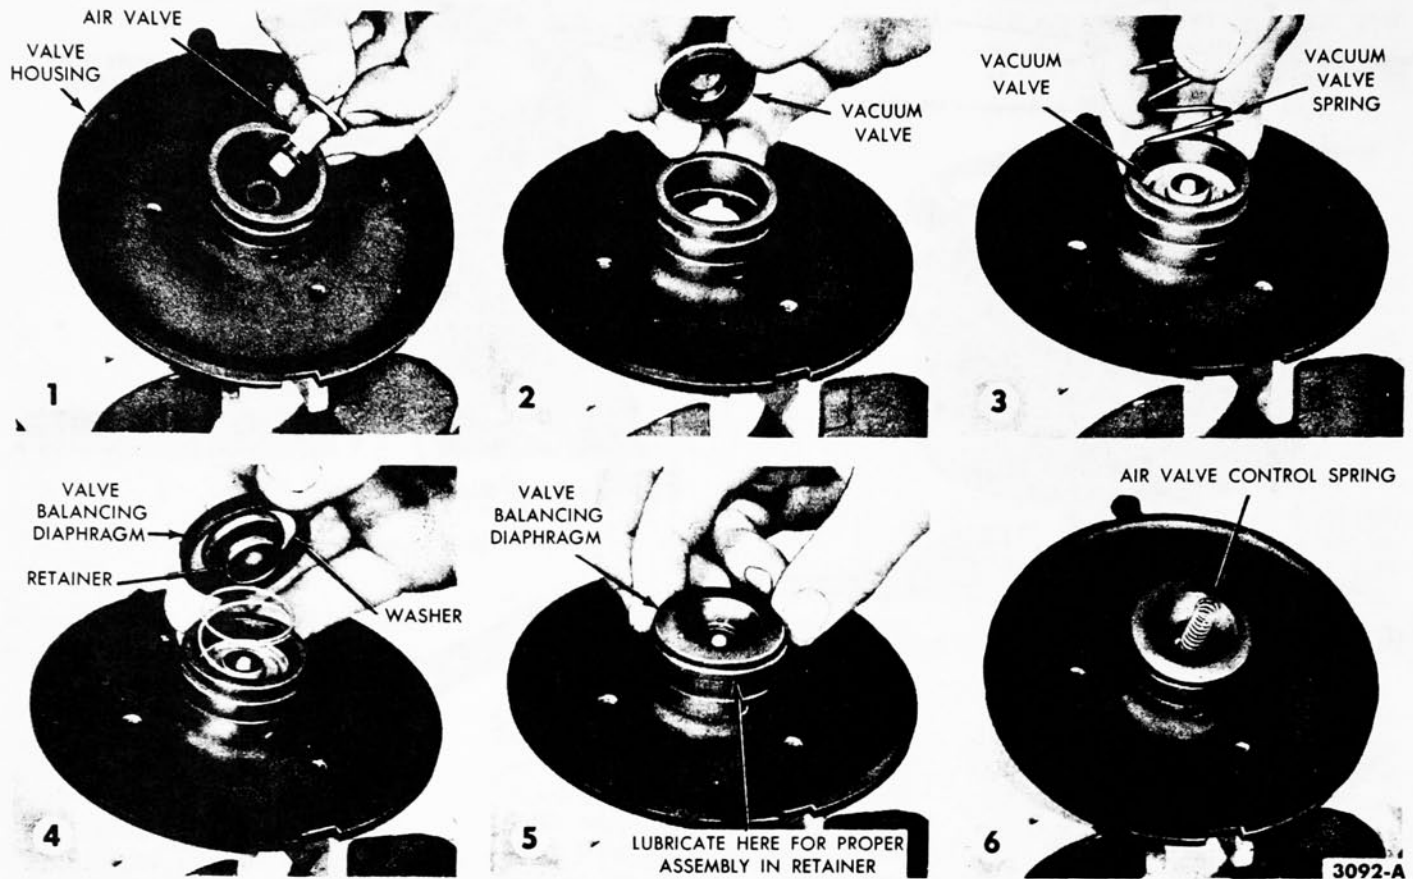

FIG. 9—Air Valve and Vacuum Valve Installation
6. Fig. 9 shows the assembly operations for installing the air valve and the vacuum valve. Refer to this figure and reverse the operation order to disassemble. Remove the valve housing from the vise.
2. Refer to Fig. 9 and assemble the air and vacuum valves. Lubricate all moving parts with a light coat of silicone lubricant. **If new valve parts to be installed are coated with this lubricant, do not wipe it off.**
Note that the retainer, which is shown in operation No. 4 (Fig. 9), is installed on the valve balancing diaphragm with the small diameter toward the diaphragm.
In operation No. 5 (Fig. 9), the retainer and the center diaphragm bead must be pressed down over the vacuum valve "neck."